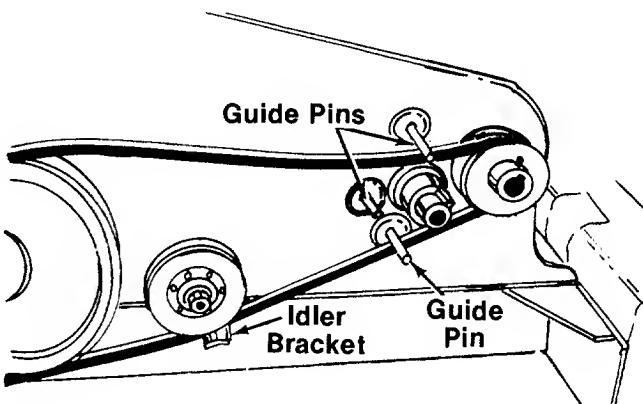

**FIGURE 26.**
- Slide the front engine pulley and "V"-idler pulley out as shown in figure 26.